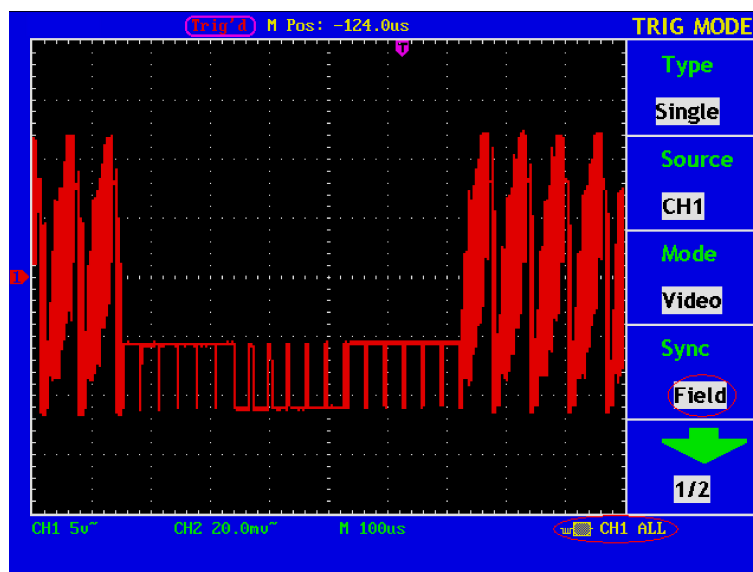

Fig. 110 Wave Form Obtained from Video Field Trigger
6. Adjust the **VOLTS/DIV**, **VERTICAL POSITION** and **SEC/DIV** knobs to obtain a proper wave form display (see Fig.110).